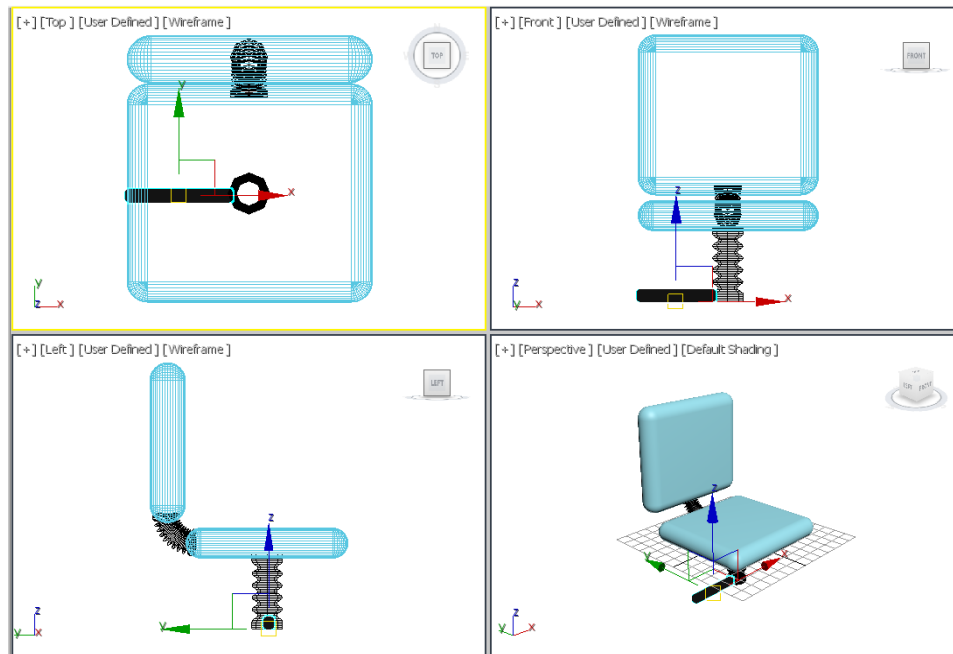

Figure 3-38 Alignment of *leg01* in the viewports
6. Choose the **Select and Move** tool and align *leg01* with *leg support* in the viewports, as shown in Figure 3-38.